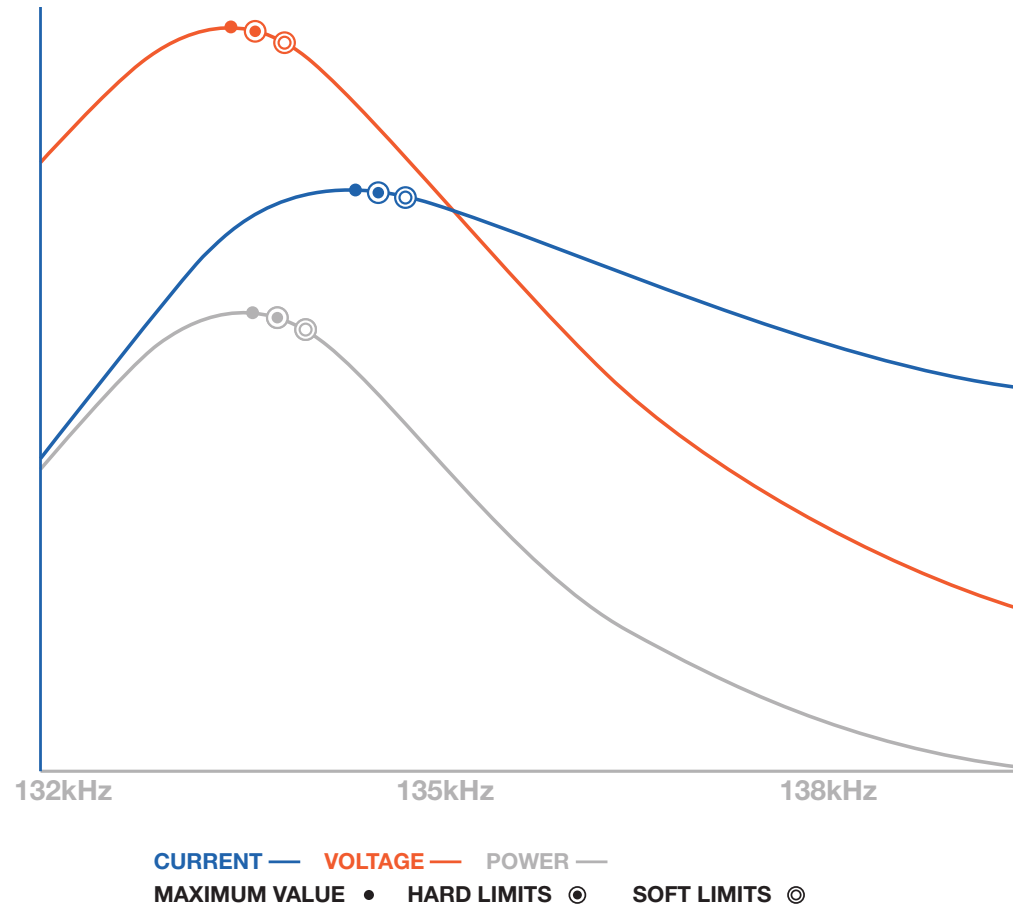

Figure 3-5: Output vs. Frequency (ideal limit relationships)
**Figure 3-5** depicts how the soft limit, hard limit, and maximum (peak) magnitudes relate to one another as a function of frequency during an ideal heating moment in time. At any given instance the magnitude of all three is determined by the soft limit of output condition that has its soft limit at a magnitude which is realized at the highest frequency.
**Figure 3-5** represents the ideal scenario in other ways, namely, the respective ordering of the soft limit, hard limit, and maximum value are same for each plot, all three values within each plot are very close to one another, and all contain the clustering near their respective maxima. Similar results can be expected for properly tuned loads where the output power is the near maximum possible value. Conversely, under poorly tuned load conditions, the hard and soft limits appear much farther away from the corresponding maximum values or do not intersect the output characteristic plot at all. Achieving successful heating outcomes requires that the person responsible for load tuning and recipe creation know the fundamental ideas behind how the three plot magnitudes relate and the consequence of a poorly tuned load condition.